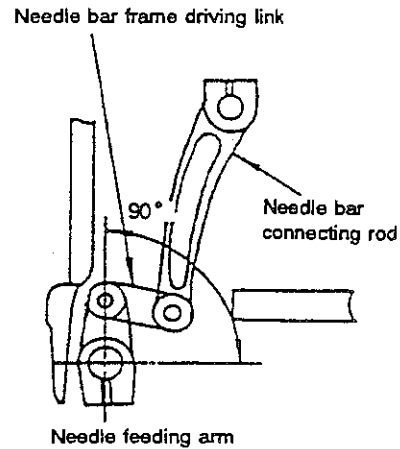

Fig. 2
- The needle feeding arm should be made perpendicular. (Fig. 2)